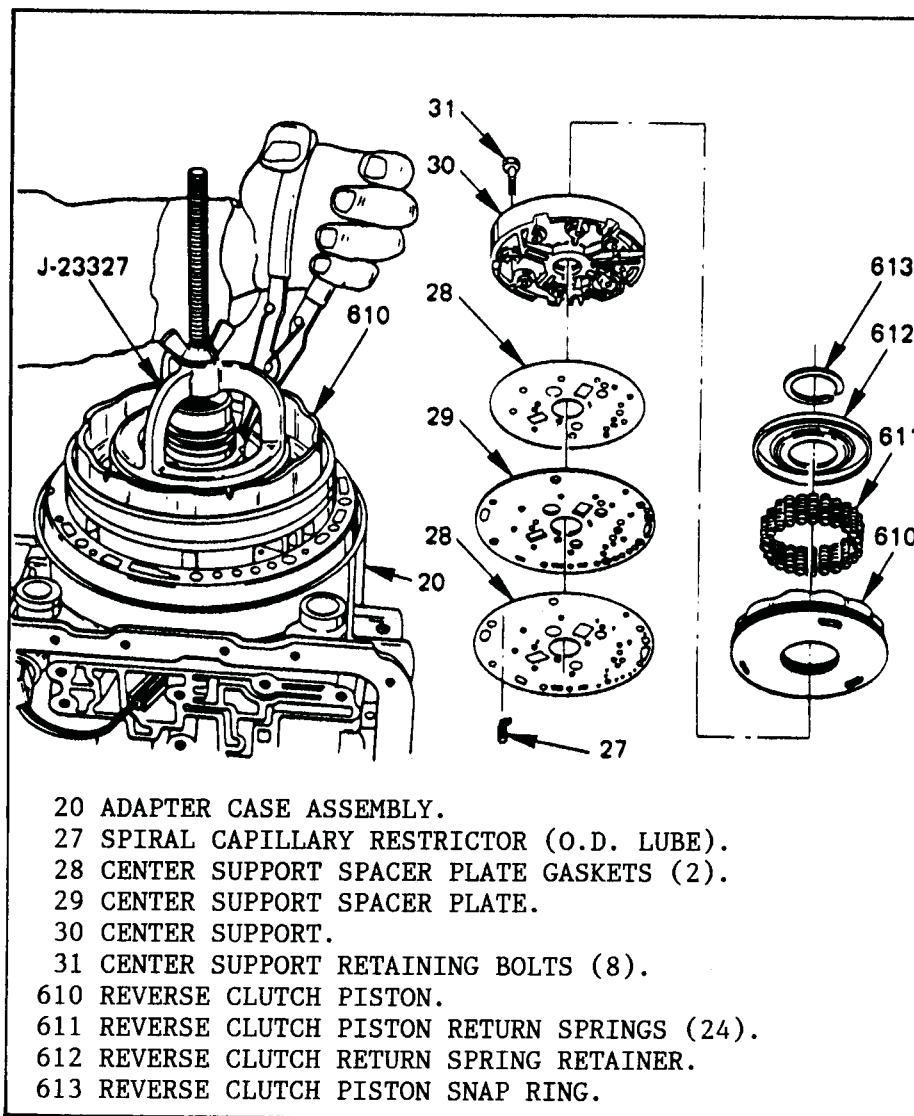

Figure 61
10. Install spacer plate gasket onto the adapter case housing (See Figure 61).
11. Install adapter case spacer plate on top of gasket on housing (Figure 61).
12. Install another spacer plate gasket on top of spacer plate (Figure 61).
13. Install center support onto adapter case housing with seal ring tower up as shown in Figure 61.
17. Install reverse clutch piston into center support (See Figure 61).
18. Install 24 reverse clutch piston return springs into piston, and install spring retainer on top of springs (Figure 61).
19. Install spring compressor J-23327 as shown in Figure 61.